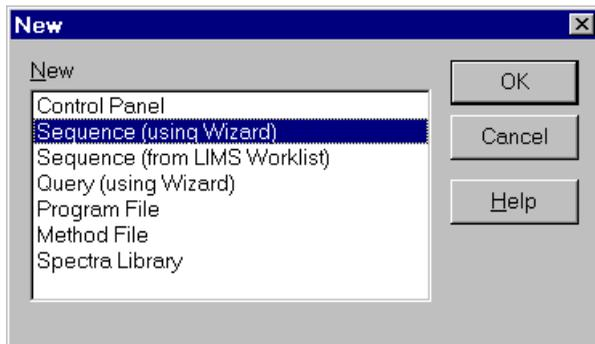

Figure B-47. Creating a New Sequence
3. In the Browser, select **File>New** and select **Sequence (using Wizard)** (see Figure B-47).